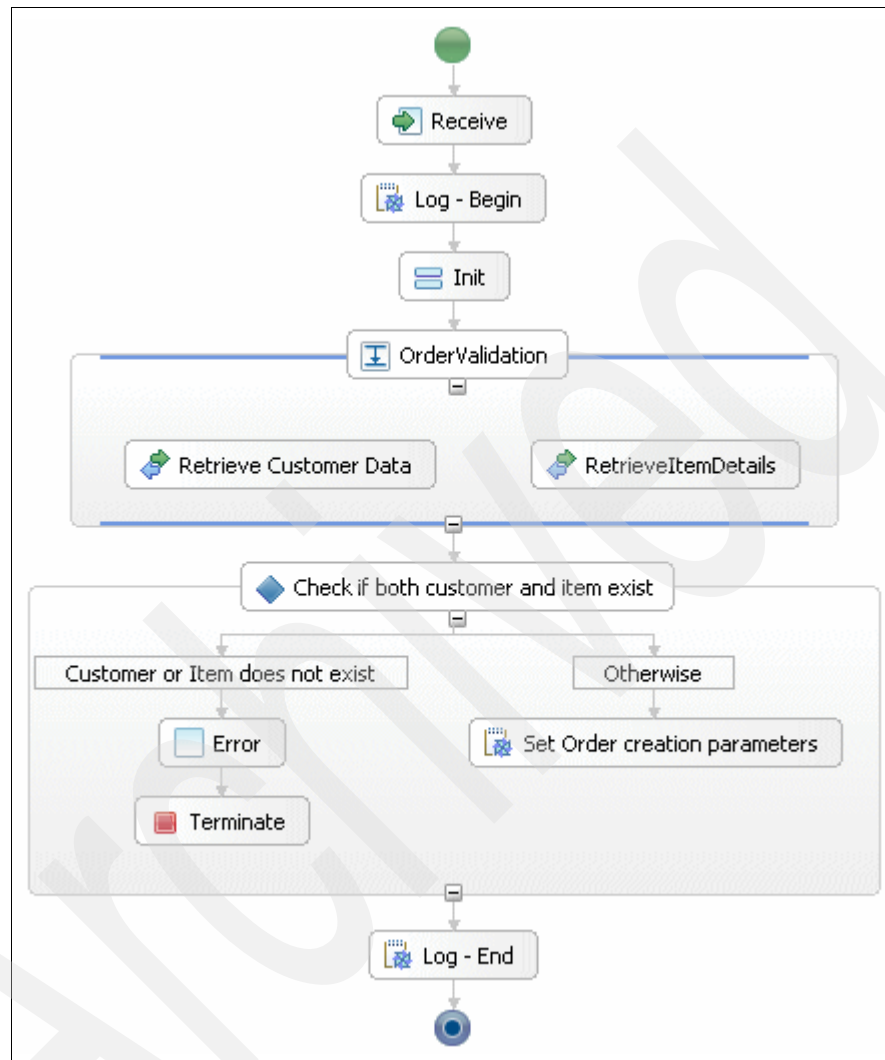

Figure 3-34 Basic OrderManagement BPEL
16. Verify that your BPEL looks similar to Figure 3-34.